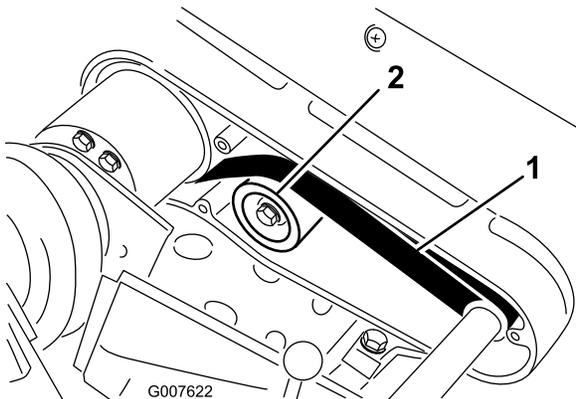

Figure 42
2. Check the tension by pressing the belt at mid span of the pulleys (Figure 42) with 5 to 6 lb (22–26 N) of force. The belt should deflect 1/4 inch (6 mm).
- A. Loosen the idler pulley mounting nut and pivot the idler pulley clockwise against the backside of the belt until the desired belt tension is attained (Figure 42).